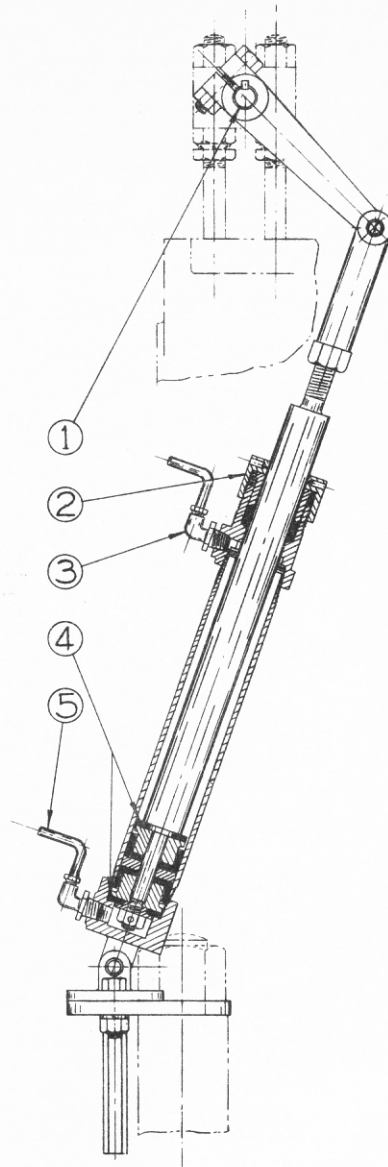

FIG. R-4
The rocker shaft is shifted from one position to the other by means of a pneumatic cylinder mounted forward of cylinder No. 1 and illustrated in Fig. R-4. The pilot valve controlling this cylinder and the manner in which it is operated from the latch shaft are identical with the pilot valve, described in Paragraph 6. As shown in Fig. R-4, it is in the inoperative position, with the plunger down. Air pressure admitted above the piston through connection (3), which is permanently connected to the source of air supply normally holds it in this position. The pilot valve is piped to connection (5), and when in the RUN position vents the